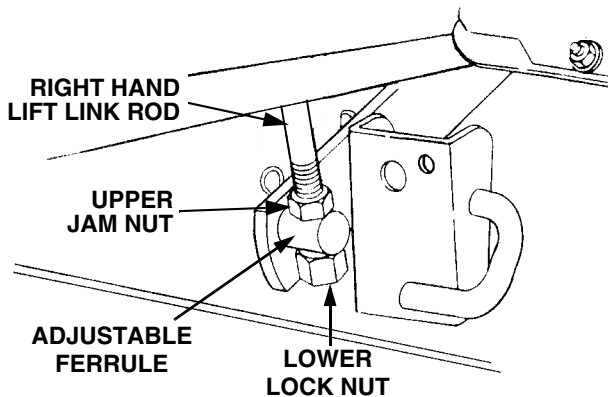

Figure 30
- Side-to-side leveling is obtained utilizing the adjustment ferrule and right hand lift link rod (See Figure 30).
- Loosen the upper jam nut on the lift link rod and turn away from the adjustment ferrule. Turn the lower lock nut upward (tighten) on the threads of the rod to raise the right side of the mower deck. Turn the lock nut down (loosen) on the threads to lower the right side of the mower deck (Refer to Figure 30).